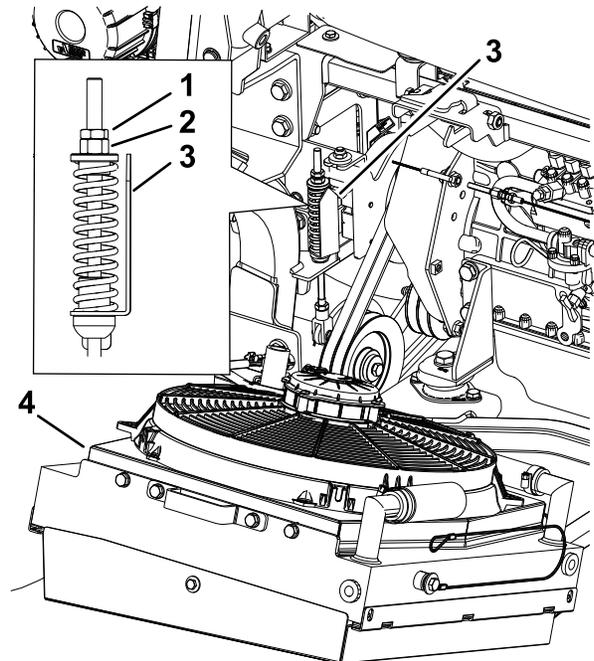

Figure 78
5. If needed, rotate the nut for the idler-pulley tensioner until the tension-indicator arrow aligns with the outer surface of the washer (Figure 78).
8. Move the idler pulley upward and remove the belts from the machine (Figure 78).
1. Align the be PTO belts over the pulleys (Figure 78).